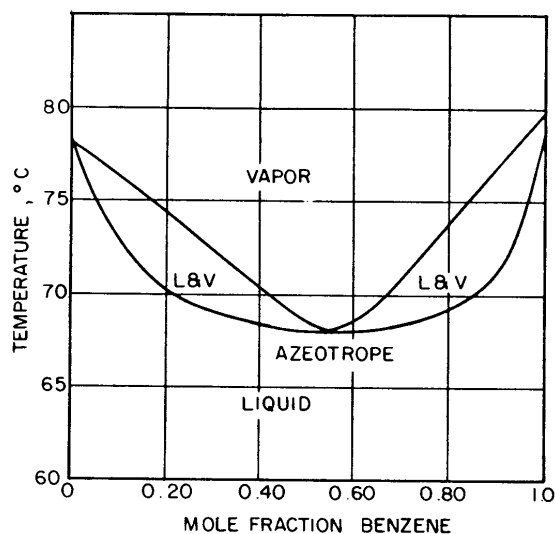

Figure 4-7 Temperature-Composition Diagram for the System Benzene-Ethanol at One Atmosphere
- Figure 4-7 in the text is an example of an azeotropic system. It shows behaviour of Benzene-Ethanol system.
- The system shown in Figure 4-7 is a minimum boiling azeotrope, since it boils at a temperature lower than the boiling point of the pure components and other mixtures.